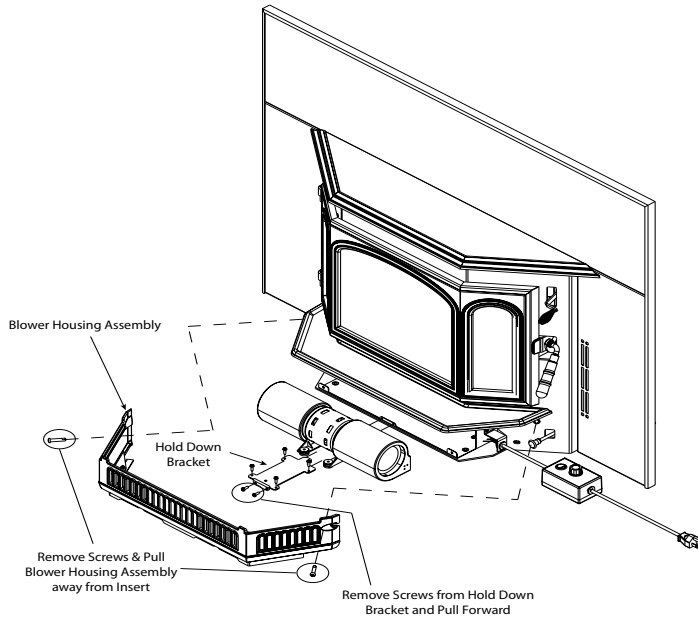

Figure 26.1
1. Remove the 2 screws from the Blower Housing Assembly using a 5/32 Allen wrench (**Figure 26.1**).